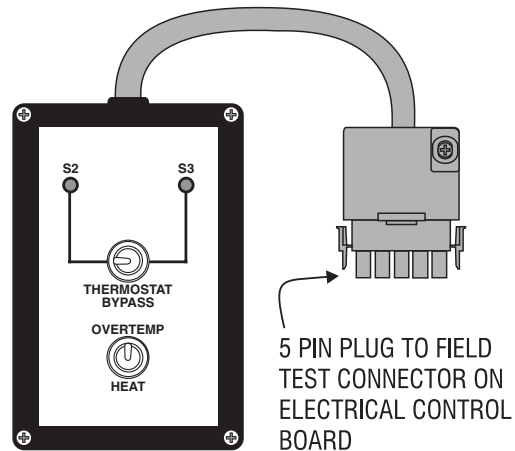

Figure 5 - TC20 Test Tool
3. Connect the TC20 Test Tool (fig. 5) to the 5-pin field test connector on back of the PC board and route the TC20 Test Tool cable out through the opening in the bottom of the unit (see fig. 10, p. 25). Close the two halves of the enclosure and temporarily secure it closed with adhesive (duct) tape. Plug in the power unit.